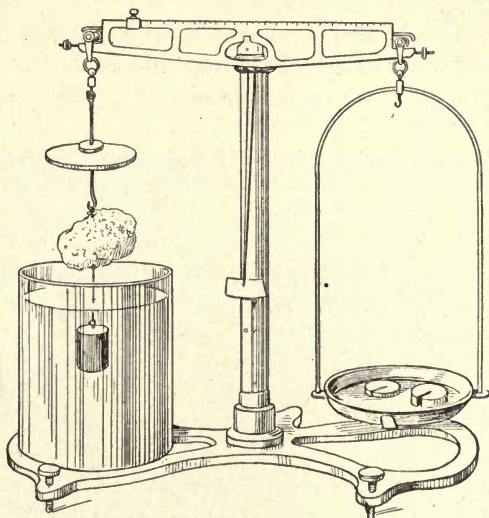

FIG. 106. — Apparatus for Determining the Density of Insoluble Substances Which are Lighter than Water.
**Density of Solids Lighter than Water.** — The density of solids lighter than water may be found in a similar way by using a heavy sinker to hold the lighter solid under water. Arrange the apparatus as shown in Figure 106. Find the weight with the body in the air and the sinker in water, then weigh both under water. The difference in the two weights will be the buoyant force on the body alone and will be equal to the weight of the displaced water and numerically equal to the volume of the body. The density may then be obtained by the use of the same equation: